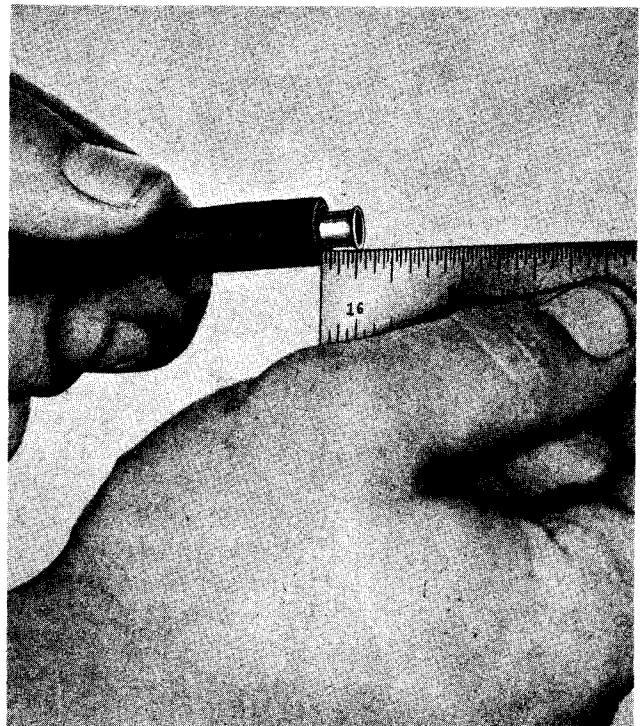

FIG. 9
22. Insert the nipple (8) into the nipple-to-shroud hose so that the flared end protrudes $1/4$ " out of the hose (see Fig. 9).